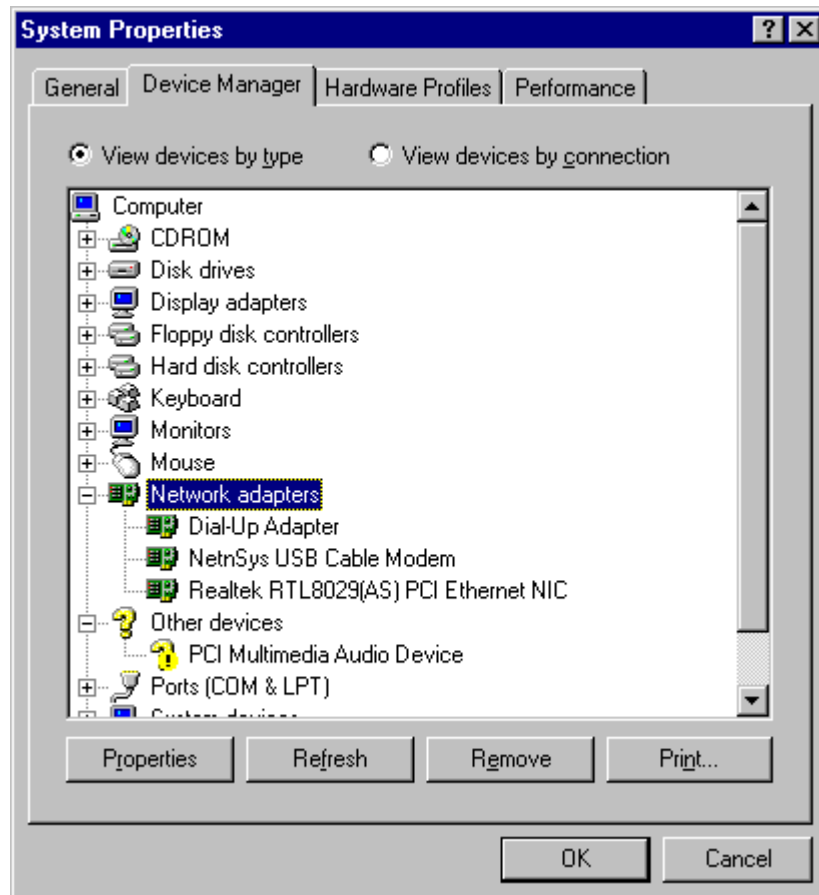
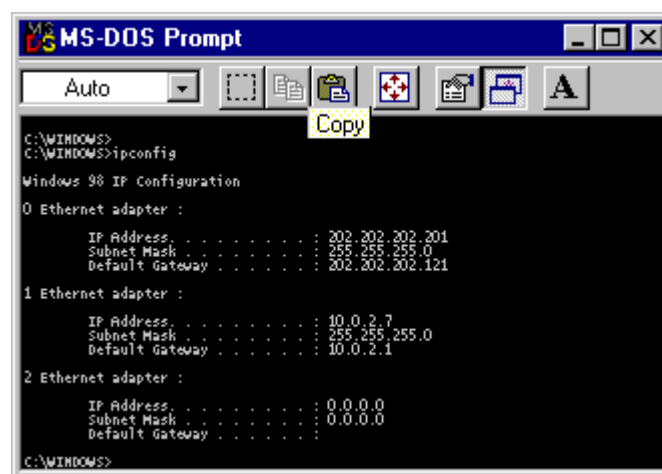

Figure 17 Network Neighborhood Property
Figure 18 “Ipconfig” Command
- ① From the Start menu, point to Settings and click Control Panel
- ② Double click Network
- ③ The Network Control Panel Applet appears; See Figure 17. Verify the NetnSys USB Cable Modem Driver is present. If needed, you can verify the presence of the USB Cable Modem Driver from the DOS prompt by using the “ipconfig” command; see Figure 18.